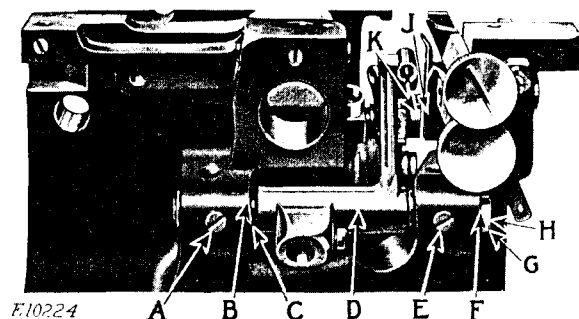

FIG. 33
Remove right hand looper lever (A) after loosening set screws (A and E, Fig. 33) and removing hinge pin (H, Fig. 33).